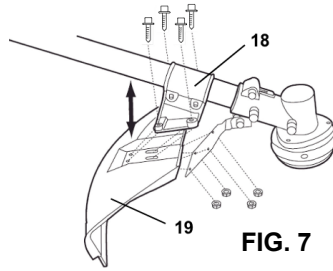

FIG. 7
1. Loosen the nuts from the four mounting sets (18) for safety guard and keep them handy (Fig. 7).
2. Place the safety guard (19) between the support and plate.
4. Pay attention to the alignment of the guard (Fig. 7).